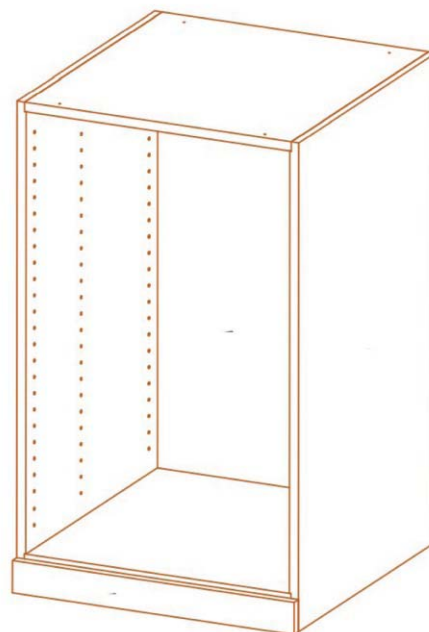

**Figure 5**
6. Turn the cabinet upside down so it rests on the top panel. Using the 3 modesty blocks (item G on the Parts List) and six #8 1" modesty block screws, fasten the blocks using the pre-drilled screw holes in panels A, B and D (**Figure 5**). Using 3 modesty block screws, attach the kick board (item F on the Parts List) to the cabinet assembly aligning the pre-drilled holes in the toe kick with the modesty blocks.
7. Turn the cabinet on face and place remaining modesty blocks in the pre-drilled locations on the back of the cabinet assembly as show in **Figure 5**. Using 8 modesty block screws, screw the modesty blocks in the back panel E (**Figure 5**).